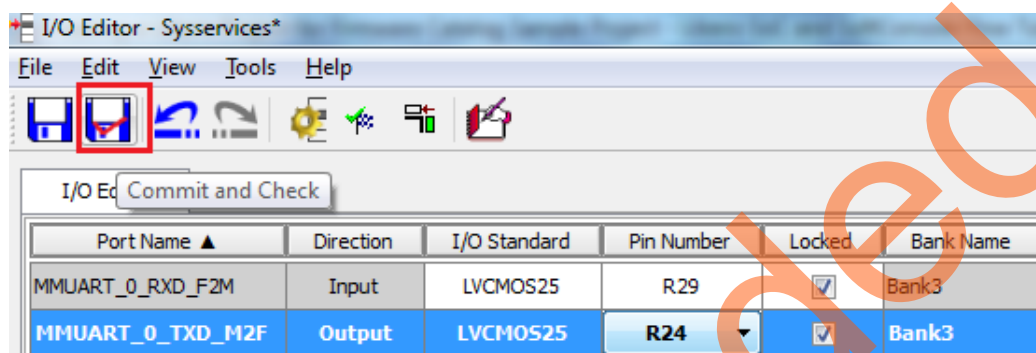

Figure 26 • I/O Editor
2. Make the pin assignments shown in Table 2. After the pins have been assigned, the I/O Editor is displayed as shown in Figure 26.